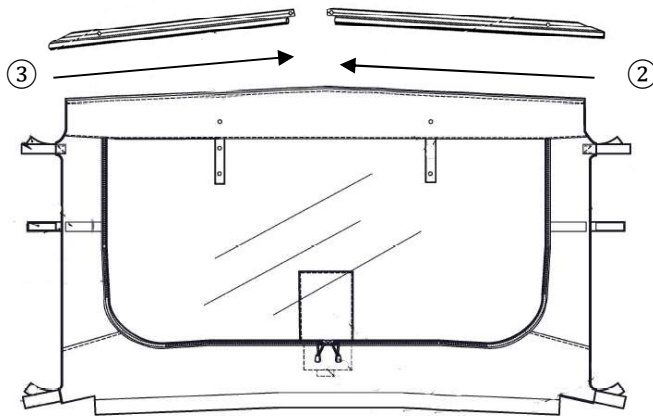

Fig. 2
1. Insert the three ⑥ Spring Nuts in the mounting locations on the rear of the Sun Top. (Fig. 2)